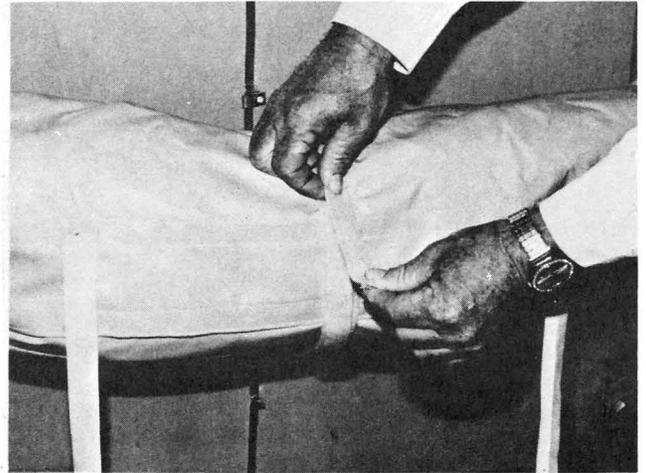

Fig. 20
5. Wrap the straps as tightly as possible and mate Velcro fastenings as illustrated in Fig. 20 and 21.